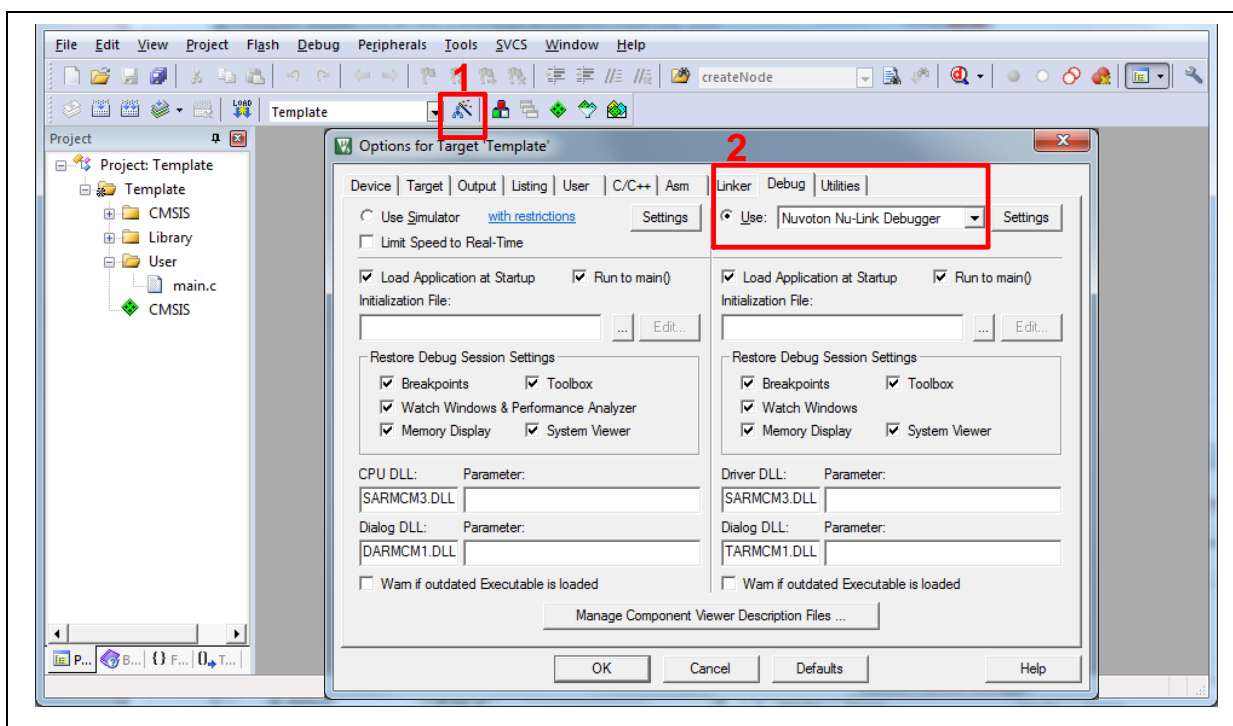
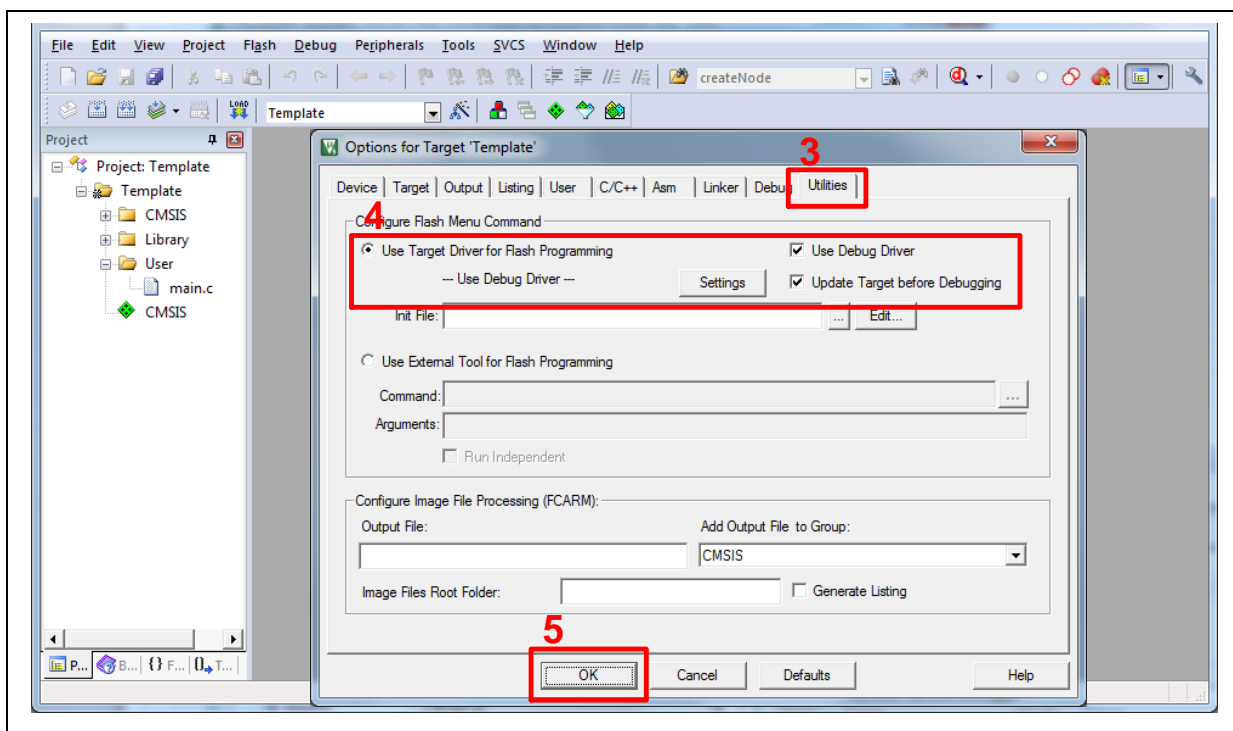

Figure 4-10 Debugger Setting in Options Window
Figure 4-11 Programming Setting in Options Window
2. Make sure the debugger is “Nuvoton Nu-Link Debugger” as shown in Figure 4-10 and Figure 4-11.
**Note:** If the dropdown menu in Figure 4-10 does not contain “Nuvoton Nu-Link Debugger” item, please rework section 4.2.